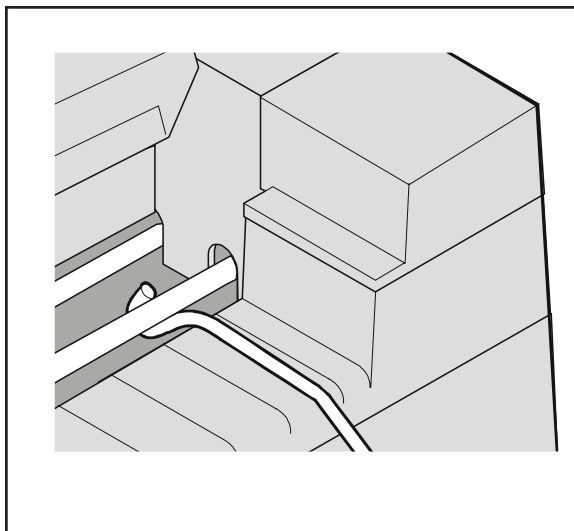

Figure 2-5. Hooking the Paper Deflector
2. Hook both ends of the deflector onto the rear tractor support shaft, as shown in figure 2-5.